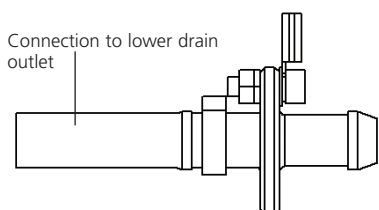

Figure 2a: Hose assembly 2
- 9 Refer to fig. 2a Take the Level Control, W4L2A, item 25. Connect the open end of the 8mm hose of hose assembly 2 to the lower drain outlet of the W4L2A and secure with tie strap.
- 9b From the hose pack take a 1000mm length of 8mm vinyl hose. Connect the 8mm hose to the earthed spigot of hose assembly 2 and secure with a tie strap. Feed the free end of the tubing through the opening item 20 in the side of the cabinet.